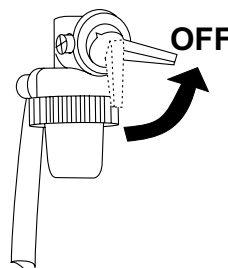

Figure 29. Engine Fuel Valve Lever (OFF)
4. Place engine fuel valve lever (Figure 29) in the **OFF** position.